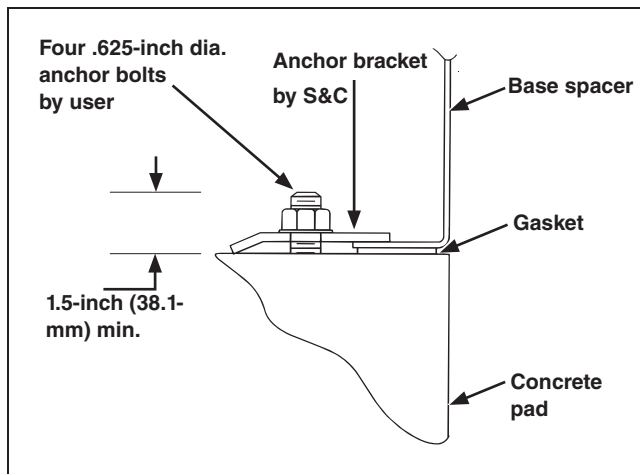

Figure 4. The anchor bracket.
- STEP 4.** Secure the base spacer to the pad using the anchor brackets provided. See Figure 4.